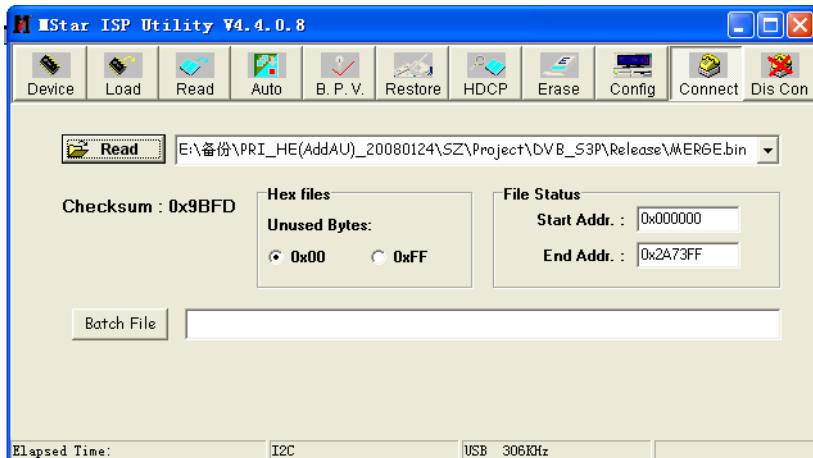

Fig. 17 Burning file
- d) Press menu “Read”, select burning file, such as “**MERGE.bin**”, please refer to Fig. 17;